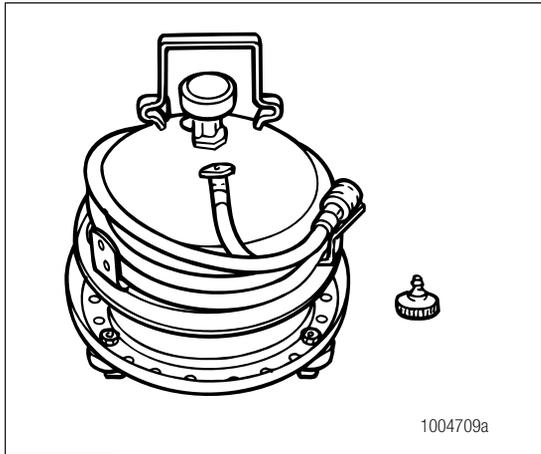

Figure 3.4
**Pressure fill and bleed** is the preferred method for bleeding the service brake system. It requires the use of a special pressure bleeder kit, consisting of a tank, pressure pump and valve, gauge, tubing and adapter. These kits are available from a number of manufacturers and include instructions for use. Figure 3.4.